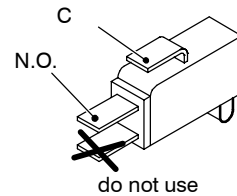

Fig. 4
- 2 Measure the electrical resistance between the tabs marked C. and N.O. (Fig. 4). The contact must be normally open.
- 4 Re-assemble the parts in reverse order of removal. Refer to Fig. 4 for the correct wiring connectors on the switch